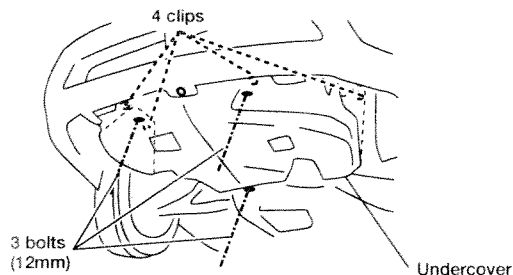

Figure 3-1 (Bottom of engine)
1. Secure and lift the vehicle up. Remove the under-cover. (Figure 3-1)